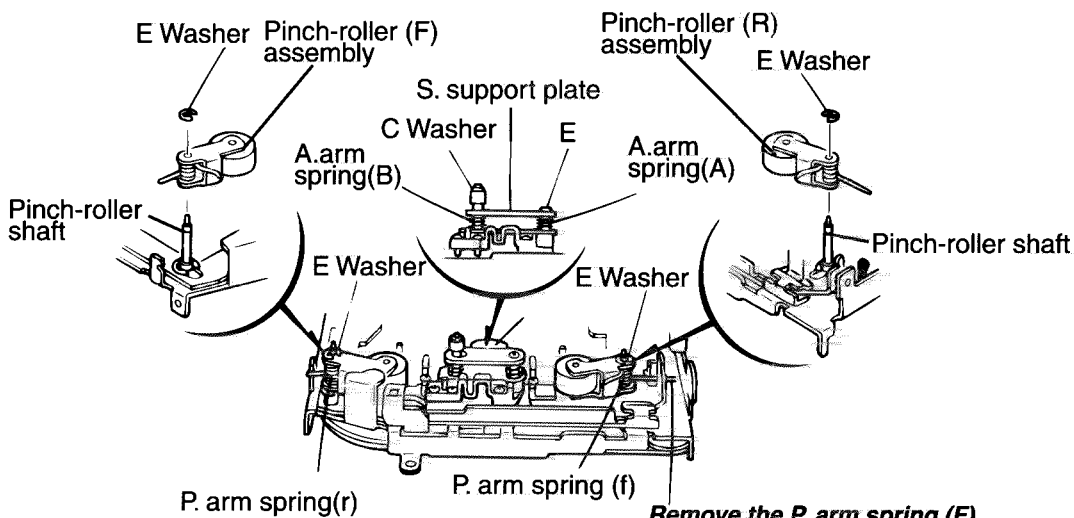

Fig. 7 Remove the P. arm spring (F) from the chassis.
■ **Removing the pinch-roller assembly (See Fig. 7)**
■ **Removing the playback head (See Fig. 7)**